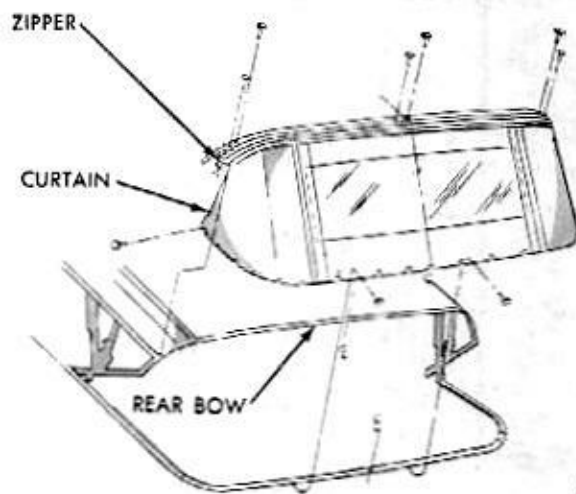

Fig. 11—Rear Curtain Assembly
roof rail (Fig. 11).
(1) Insert cables in cover listings. Use cords to install cables in original cover.
(2) Locate and mark center line on top header, rear bow, and at each end of new cover and rear curtain.
(3) Position rear curtain on rear bow, align centerline marks and tack curtain to bow (Fig. 11).
(4) Position curtain centerline notch at bottom to centerline of retainer and secure to tacking strip with 6 tacks.
(5) Pull curtain laterally to tacking strip and overlay slots in curtain to slots in retainer.
(6) Secure curtain to tacking strips with tacks or